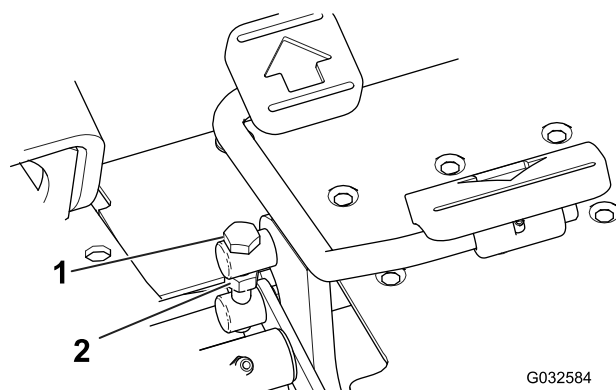

Figure 44
1. Loosen the jam nut on the trunnion bolt on the side of the traction pedal (Figure 44).